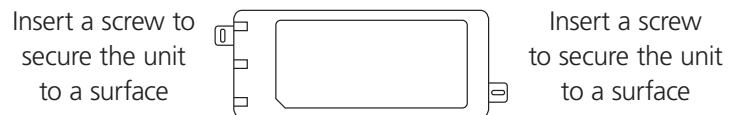

Figure 1. Location of metal feet on the power injector.
- Using screws, affix the metal feet on the front and/or rear to a flat surface such as a table or wall. See Figure 1.